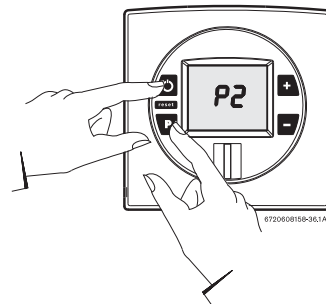

Fig. 66
- ▶ While holding the Program (P) button in, press the ON/OFF button to turn ON the heater (see Fig. 66). As soon as '188' flashes on the display, release the Program button. The display should now read P2. Press '−' button until "P1" appears on display.